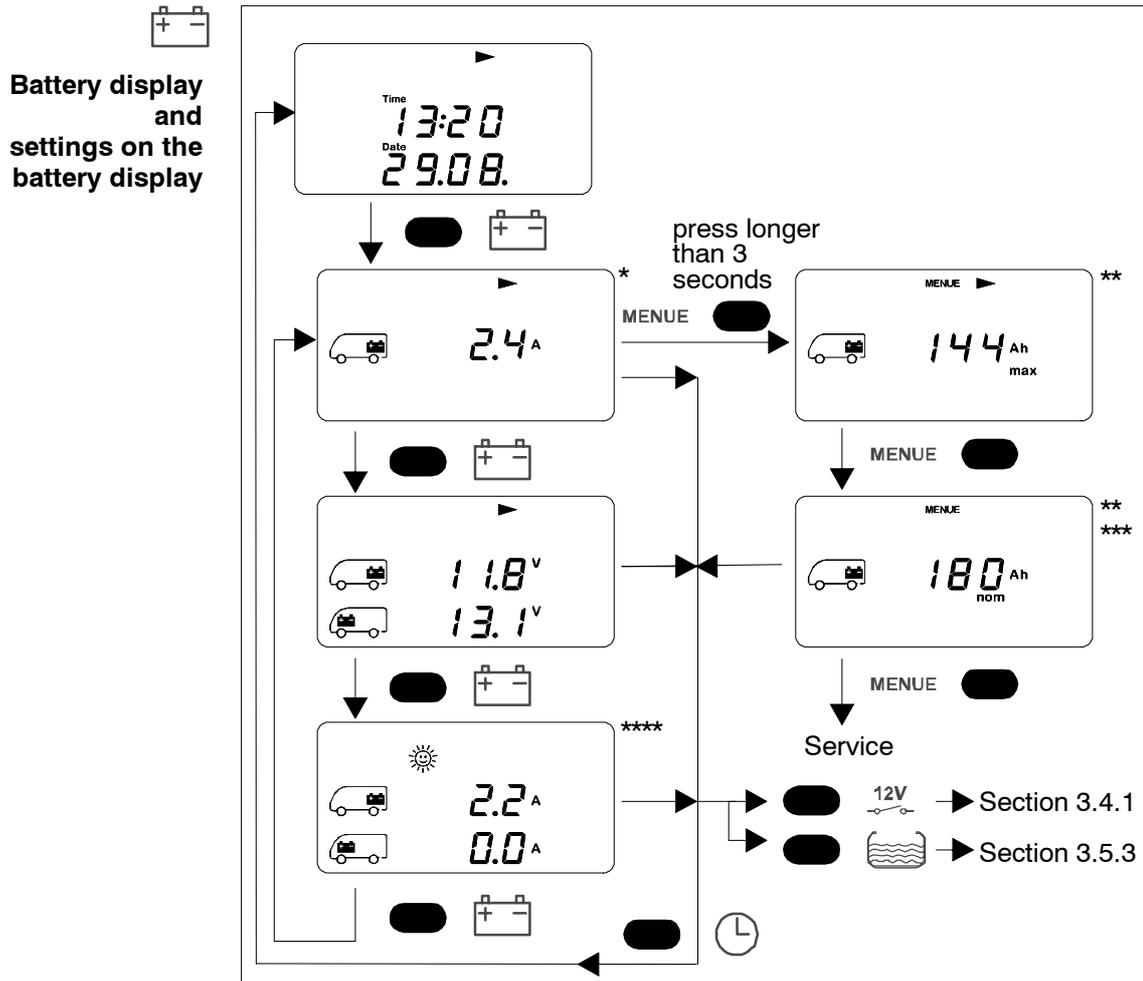

Fig. 4 Layout of battery display
- The remaining usable battery capacity of the living area battery is displayed together with the charge current to the living area battery (see Fig. 4: *).